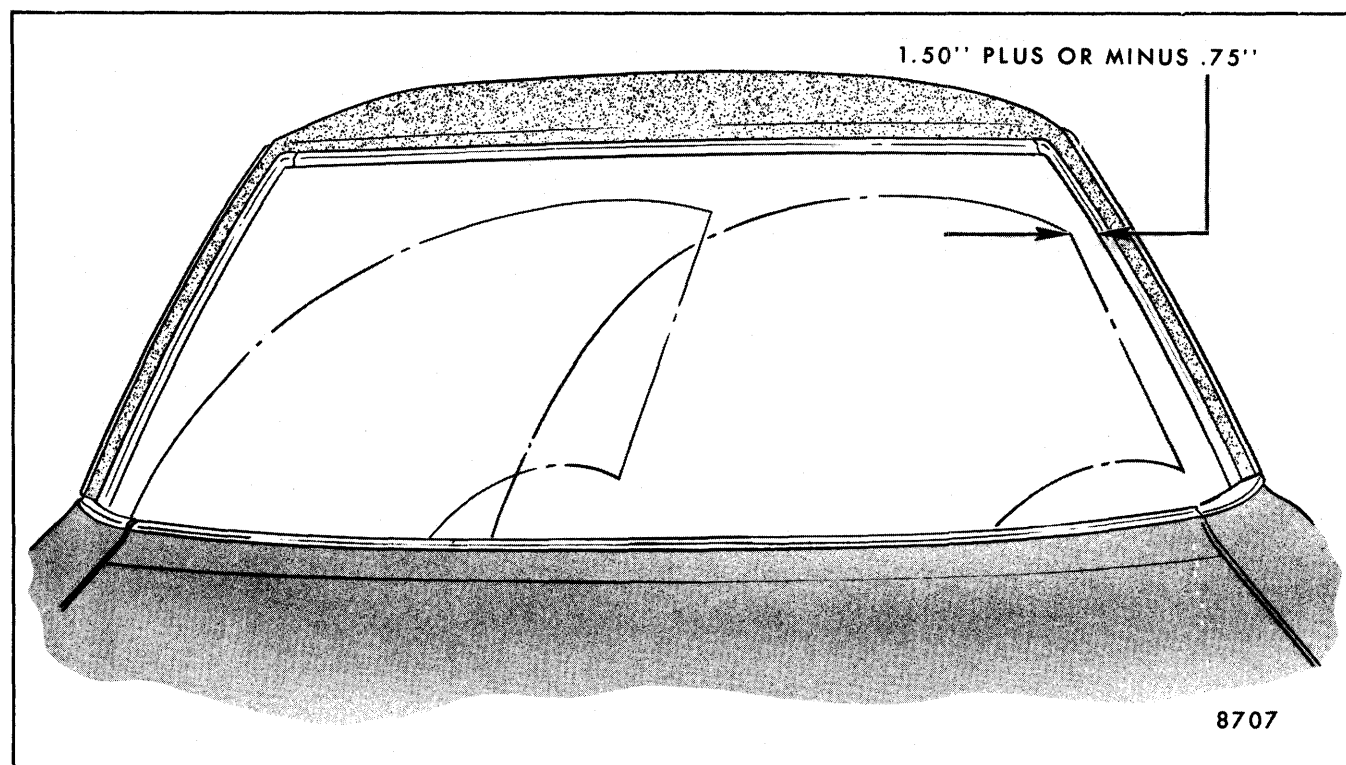

Fig. 2-52-Wipe Pattern
8. Check wire pattern and park position. Refer to Figure 2-52 for outwiper dimension.